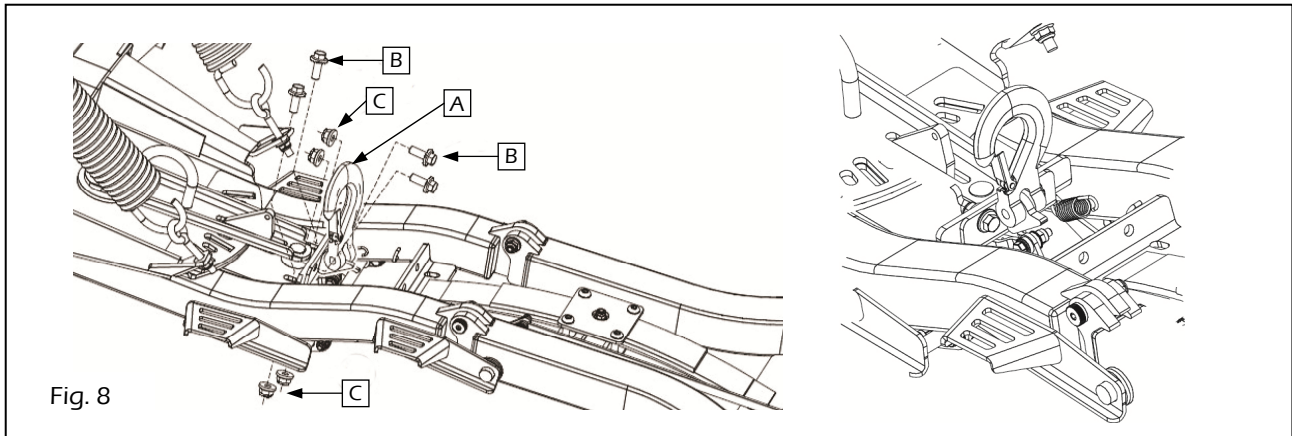

Fig. 8
- 9) Attach the positioning hook **A** to the frame using four (4) M8-1.25 x 20 mm hex. flange bolts **B** and four (4) M8-1.25 self-locking flange nuts **C** (see Figure 8). The hook and hardware are included in the kit No. 373950.